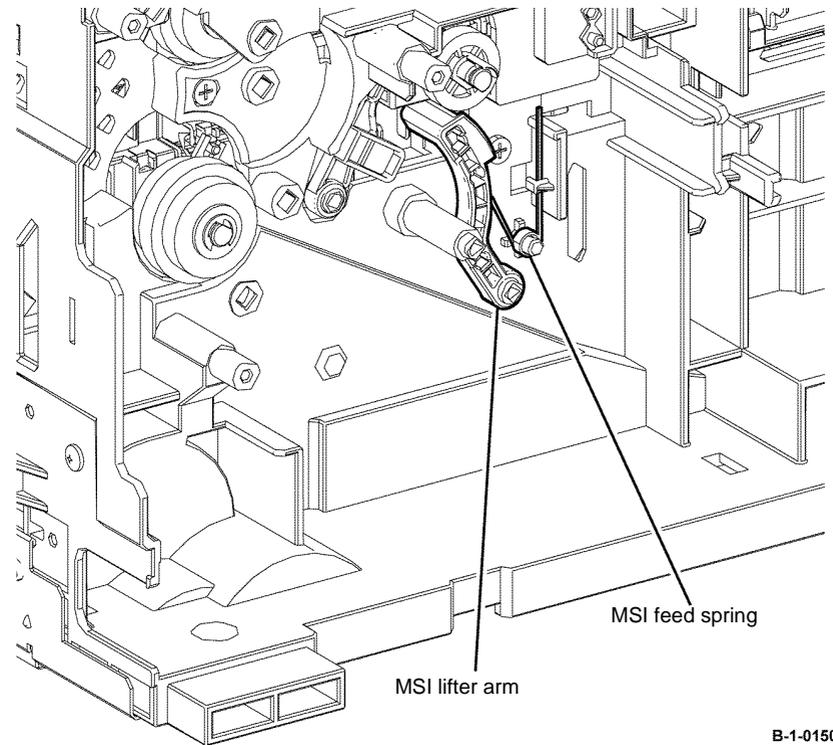

Figure 9 MSI lifter arm installation
4. When installing the MSI lifter arm, ensure the MSI feed spring, is correctly positioned, Figure 9.